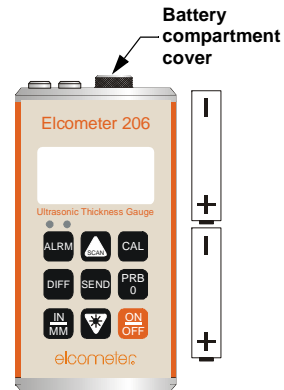

Figure 2. Fitting batteries
7. Locate battery compartment cover (Figure 2) at top of gauge.